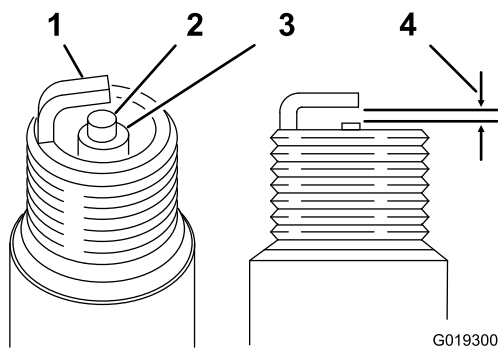

Figure 31
1. Look at the center of the spark plug (Figure 31). If you see light brown or gray on the insulator, the engine is operating properly.
- Use a gapping tool for spark plugs or a feeler gauge to measure the gap between the side electrode and center electrode (Figure 31).